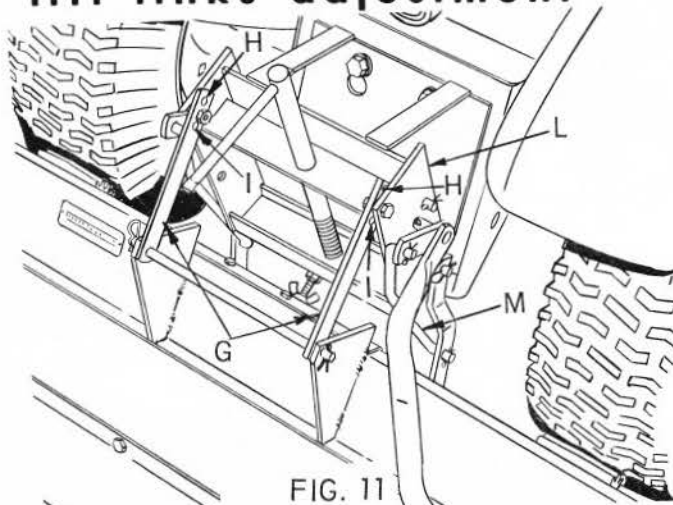

FIG. 11
1. The sweeper basket can be removed by grasping the upper bag tubes on each side and pulling up and back. This will disengage the support tubes from the tube brackets. Do not forget to untie the rope from the lift screw and handle. The sweeper is then removed from the hitch by removing the retainer springs and the rods located in the lift links and lift brackets. Remove the cotter pin and the washer at the lower end of the lift screw. Grasp the handle of the lift screw and raise the lift slide until a small hole is visible above one of the two large holes in the slide plate. Insert a 3/8" x 3/4" hex bolt into this hole and attach a nut to retain the bolt, or insert a short drilled rivet and attach with cotter pin. Lower the lift slide until it rests on the bolt or the drilled rivet. The lift screw may be adjusted upward to provide more clearance over the drawbar hole. When using the drawbar of the tractor to pull a cart, etc. the lift handle will tend to fall down and may get in the way. When the lift lever is moved to the raised position, two holes are exposed in the slide frame (L, Fig. 11), behind the lift link (M, Fig. 11). With the lift handle in the raised position, insert the lower lift attachment rod (longest rod), in the two exposed holes behind the lift link (M, Fig. 11). Secure with retainer spring. This will prevent the lift handle from dropping down.